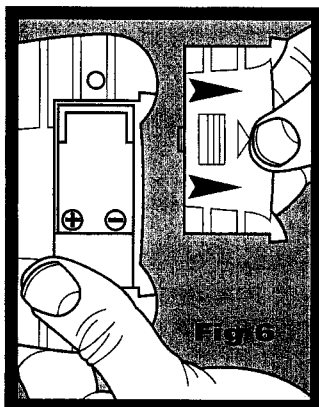

Fig 6
- Slide open BATTERY DOOR on back of TRANSMITTER. (Fig. 6)